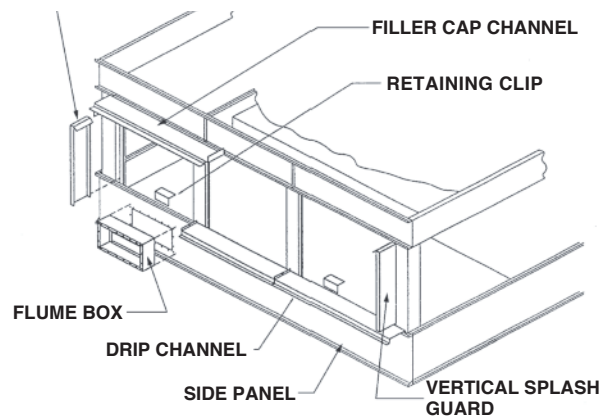

Figure 10 – Drip Channel and Splash Guards, 17' & 24' (4.9 - 5.3 & 7.3 m) Wide Models
11. Place the vertical splash guard in the bend of the vertical supports. Attach the vertical splash guard using 5/16" tappers. For stainless steel construction, attach the vertical splash guard using 5/16" (8 mm) stainless steel nuts and bolts. (See Figure 10.)